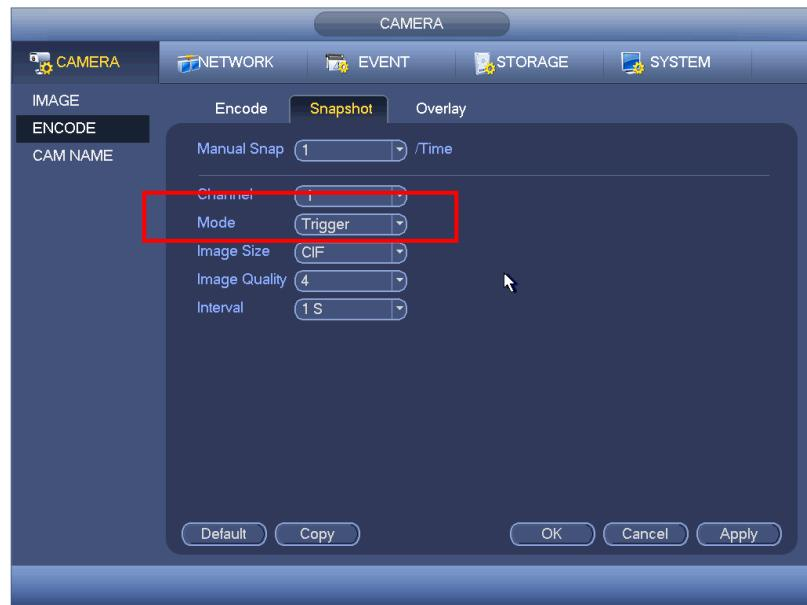

Figure 4-117
- In main menu, from Setting->Camera->Encode->Snapshot interface, here you can input snapshot mode as trigger, size, quality and frequency. See Figure 4-117.